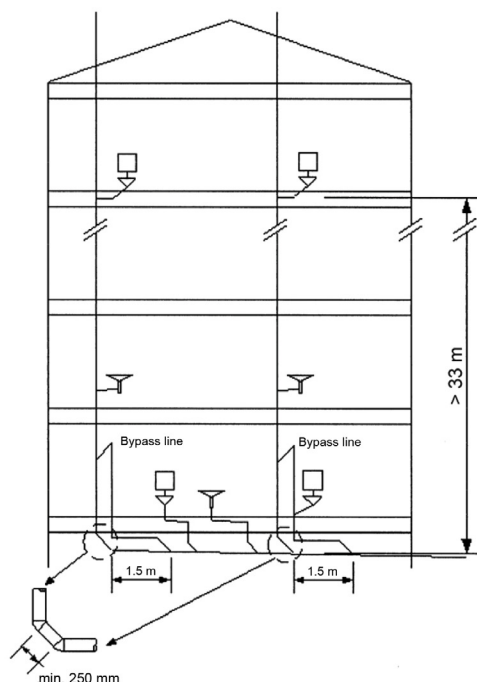

Figure 4: Junction of downpipes (more than 33 m drop height) into a collecting pipe; from ÖNORM B 2501: 2015-04-01 (Figure 15).
- In the case of downpipes with a drop height of more than 33 m, bypass pipes must be installed in the case of downpipe diverters and at the junction into a collecting and underground pipe. According to Fig. 4, this bypass line may only be connected to the collecting and underground pipe 1.5 m after the contact bend. The downpipe must be deflected with two bends at 45° and an intermediate piece with a length of 250 mm.